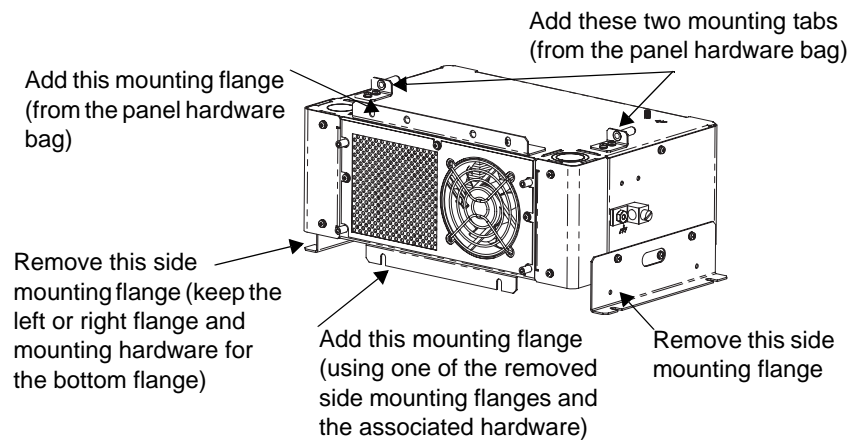

Figure 11 Mounting Flanges for Installation
See Figure 11 for additional information.
3. Take one of the mounting flanges from the mounting hardware bag in the panel shipping box (see Figure 11) and screw it to the top of the XADC. The mounting flange screw holes will line up with the corresponding pilot holes in the XADC.
- Take the two small mounting tabs (with pilot pin attached) from the mounting hardware bag in the panel shipping box and screw them to the top of the XADC, behind the AC and DC wiring compartment holes, see Figure 11.